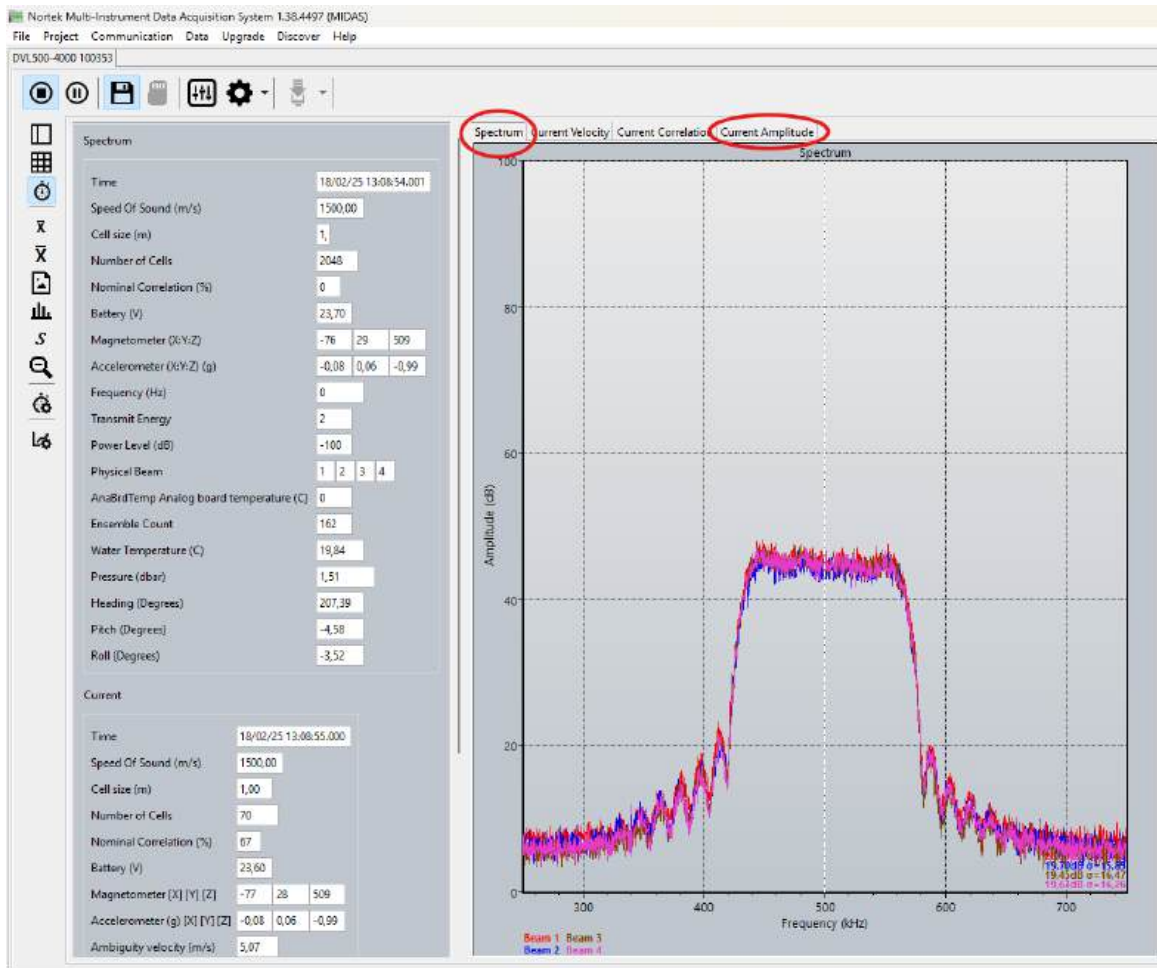
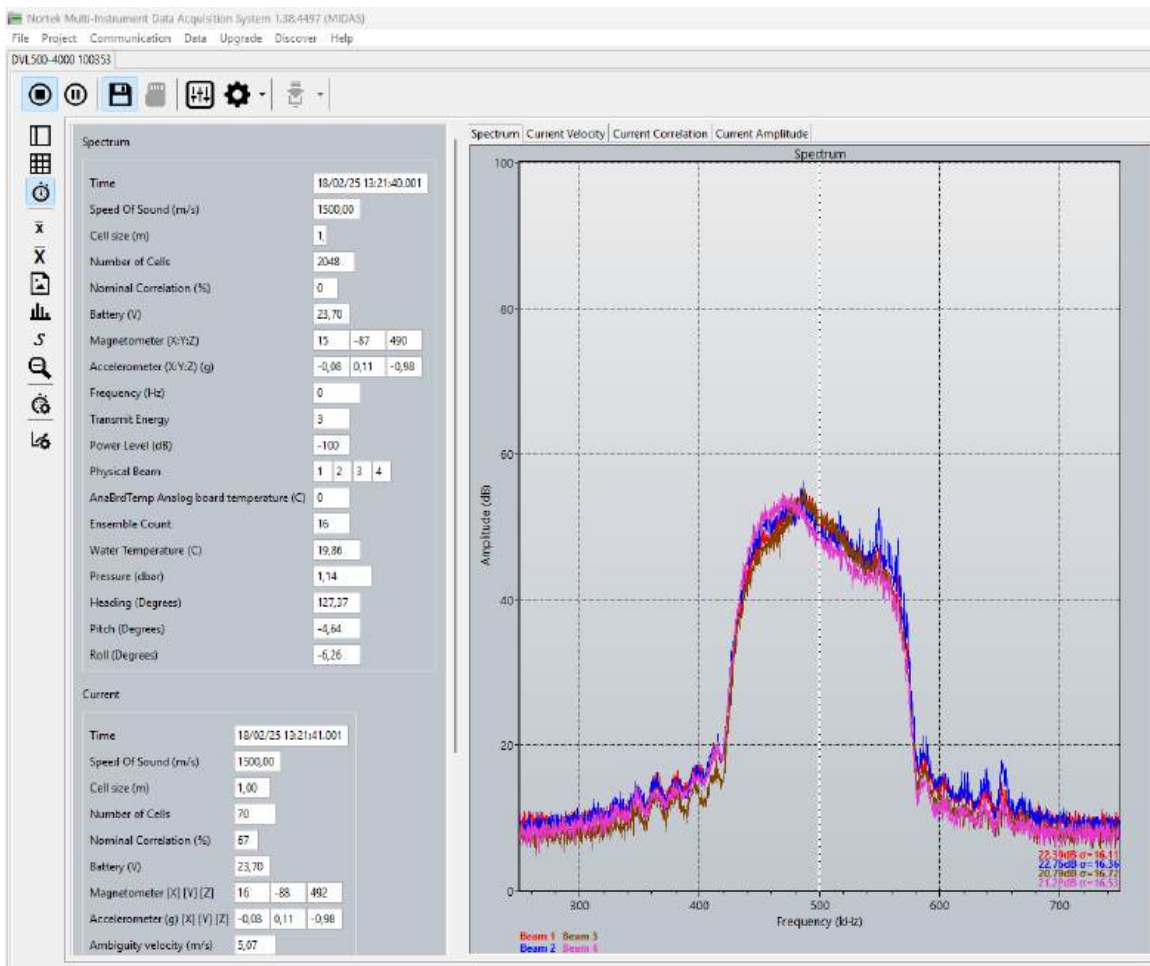
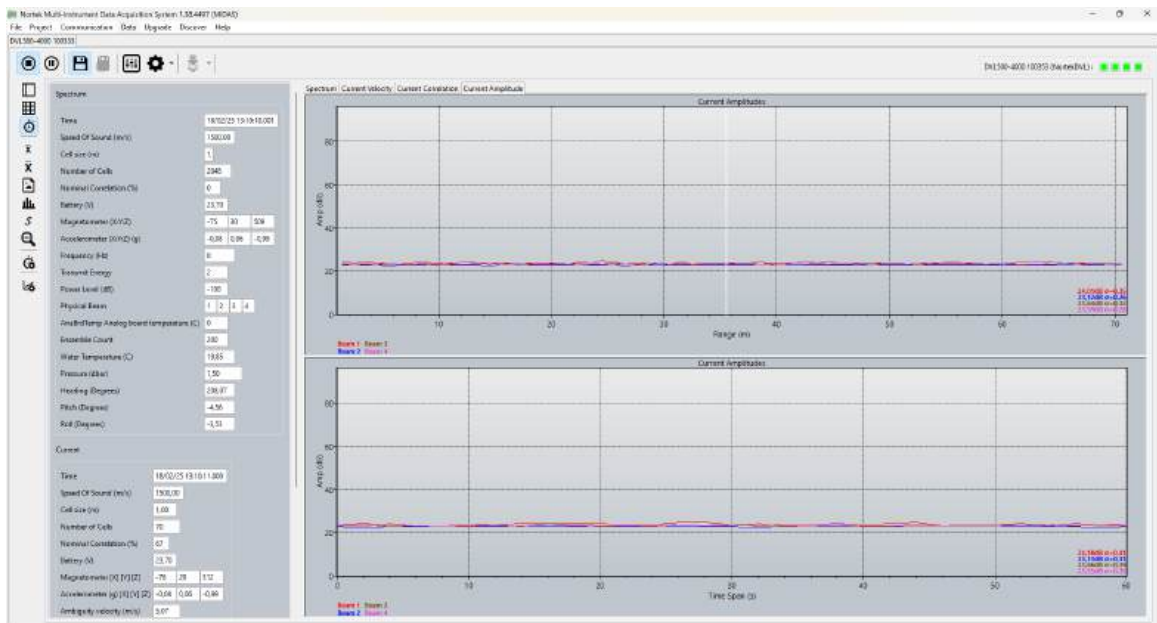
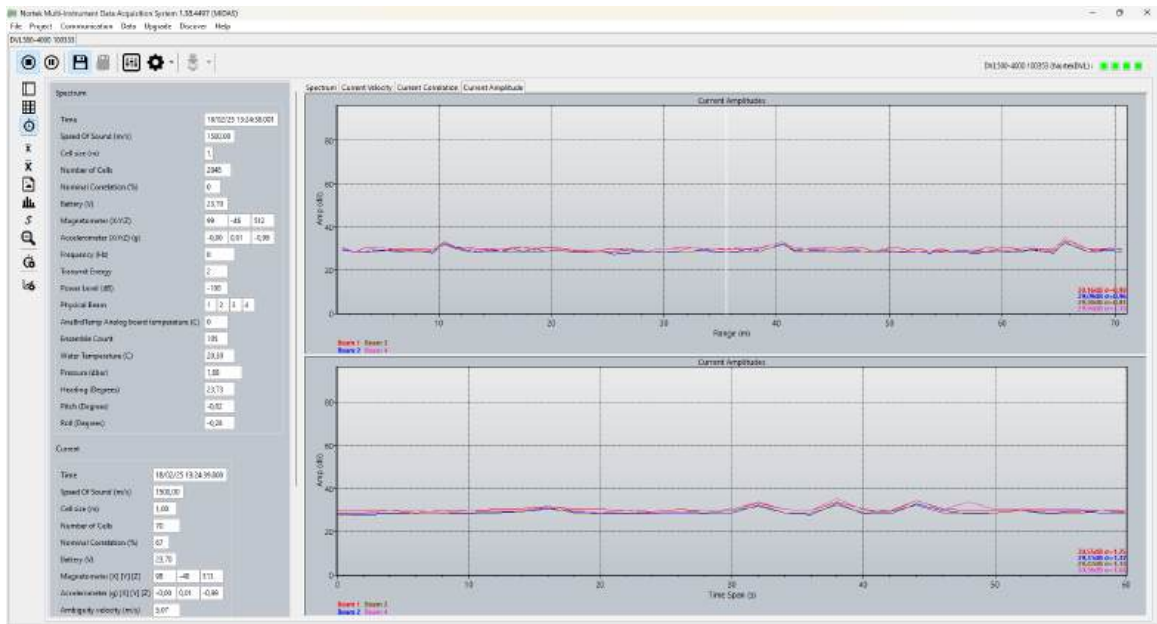

Figure 18: Midas Good Frequency vs Amplitude
Figure 19: Midas Poor Frequency vs Amplitude
Figure 20: Midas Good Range vs Amplitude
Figure 21: Midas Poor Range vs Amplitude
2. If the 'Frequency vs Amplitude' graph looks similar to the graph in figure 18 and figure 20, proceed with the testing. If the graph looks more similar to the graph in figure 19 and figure 21, return to the "Background noise testing" section to identify and remove sources.
Figure 18 is a good example of the 'Spectrum' tab in a low noise environment. Looking at the Amplitude vs Frequency graph, one can see a nice flat bandwidth plateau with a steep rise on both sides. The flatness of the plateau shows there are minimal noise sources within the DVL's bandwidth. The steepness of the sides shows there is low baseline noise in all frequencies near the DVL's operating bands. The 'Amplitude' on the y-axis should be ignored as it is not important, only the shape of the bandwidth should be analyzed.
Figure 19 shows a spectrum tab with the DVL in air. This is a noisier reading with small peaks throughout the frequency band. The bandwidth plateau is also worse, with two prominent peaks with a substantial slope in between.
Figure 20 shows the 'Current Amplitude' tab from the same data set as figure 18. The Range vs Amplitude graph quantifies the noise floor, which in this case is shown to be very good at around 25dB.
Figure 21 shows the 'Current Amplitude' tab from the same data set as figure 19. In this graph we can see an elevated noise floor hovering around 30dB. This shows the impact from the deteriorated noise bandwidth plateau as an overall higher noise plateau of roughly 5dB.